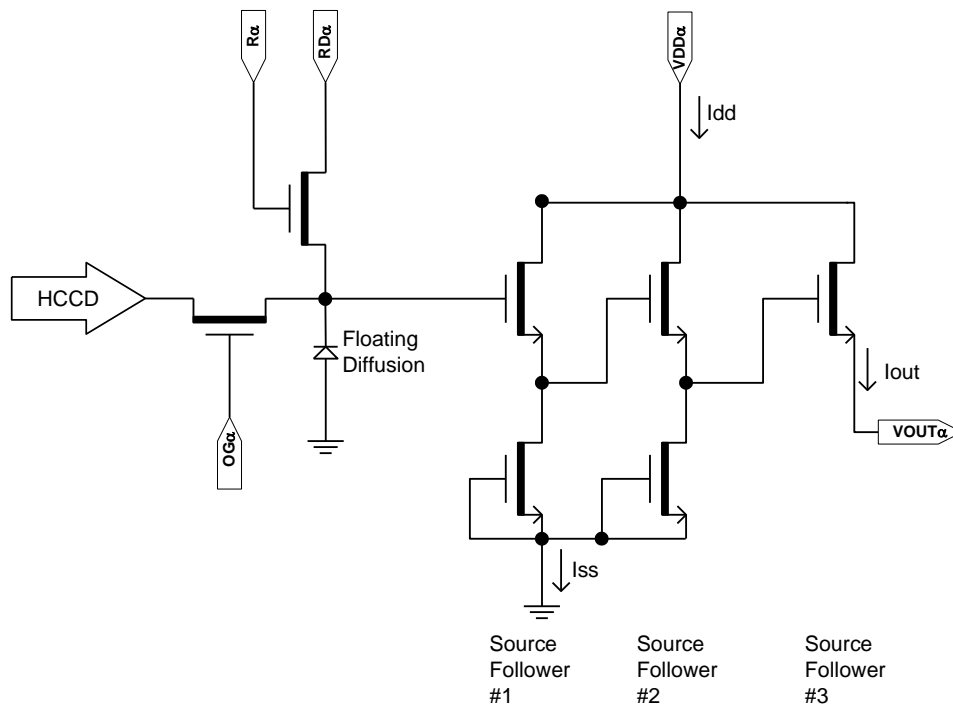

Figure 15: Output Amplifier
2. The maximum DC current is for one output. I_{dd} = I_{out} + I_{ss}. See Figure 15.